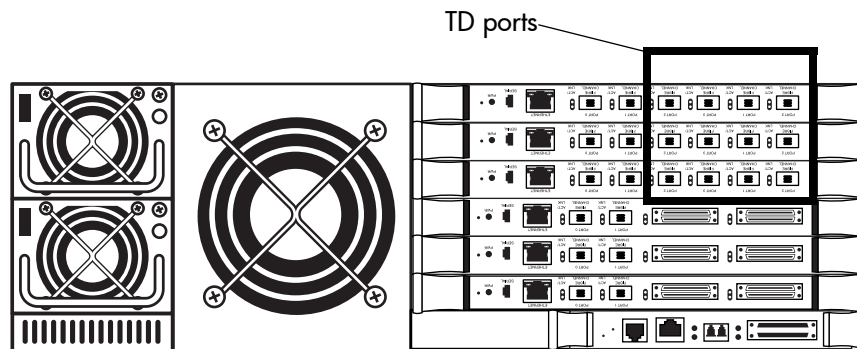

Figure 51: Connect the TD cables to the TD ports on the interface controller
2. Connect all four TD cables to the TD ports on the interface controller (see Figure 51). For each, use the cable appropriately labeled for the port, identified as TD0, TD 1, TD2, or TD3.